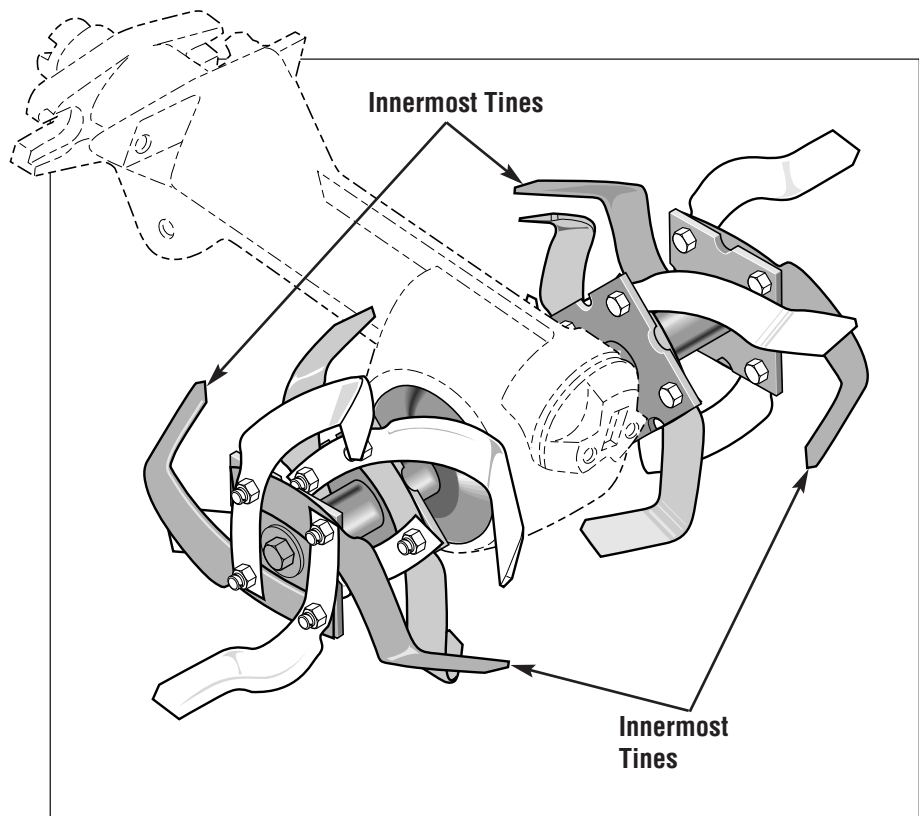

Figure 11: Outermost tines on outer holders.
A. Make sure that the tips of the four **innermost** tines on the **outer** holder (those nearest the transmission) are directly **opposite** each other and pointing inward, toward each other. See Figure 11.